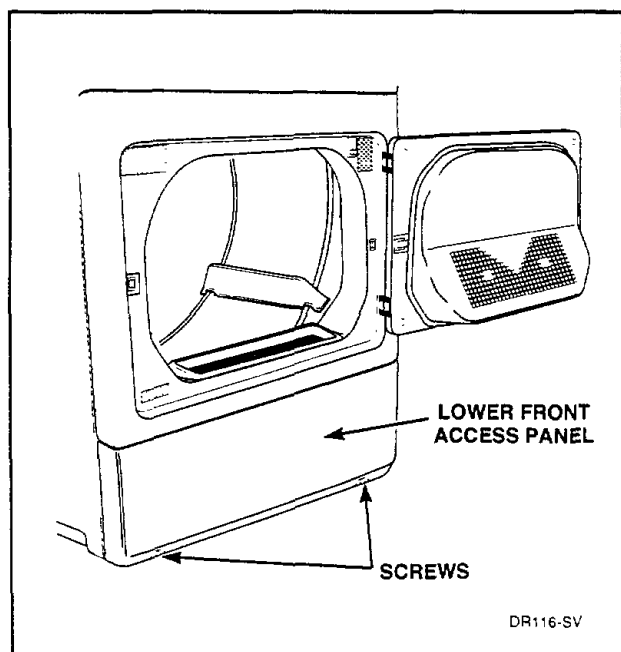

Figure 10
- While supporting the lower access panel, remove two screws from bottom edge of lower access panel, *Figure 10*.
- i. While supporting the lower access panel, remove two screws from bottom edge of lower access panel, *Figure 10*.